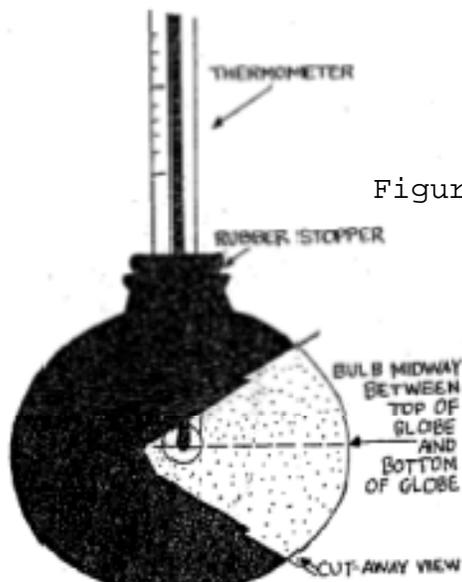

Figure 4.--The Globe Thermometer.
f. See figure 4 of this enclosure.